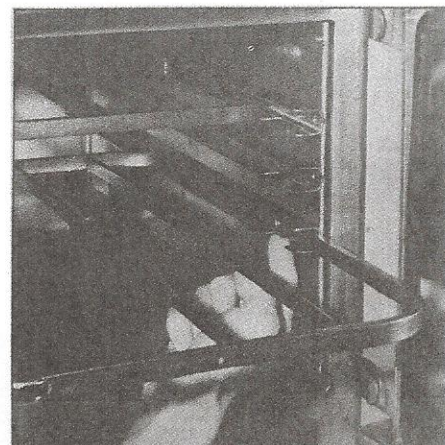

Figure 2
1. Remove shelves by pushing up on catch at right side of each shelf and sliding out of supports (figure 2).